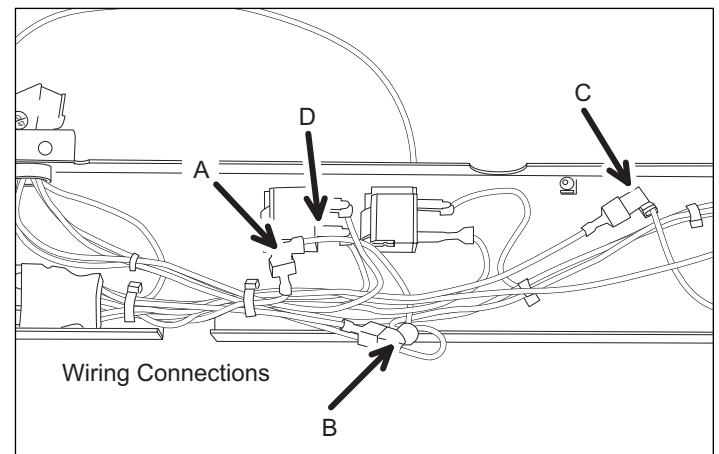

Figure 5
5. The following connections should be made between relay harness and switch box harness (See Fig. 5 & 6):
6. The following connections should be made between relay harness and switches in switch box (See fig. 5 & 6):